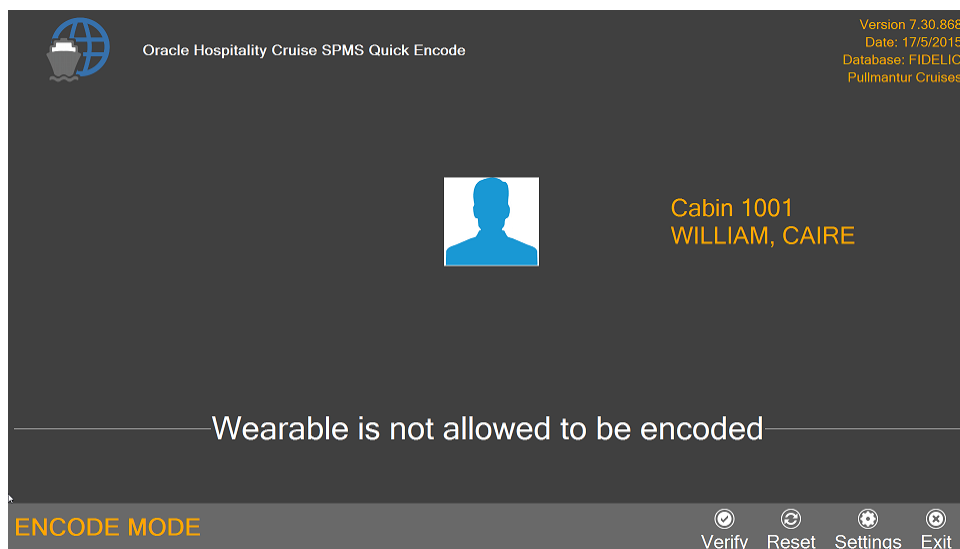

Figure 5-1 - Encode Mode for Non Ving RFID Card.
- If the card is *not* Ving RFID card type (Mifare 1K), system encode the Track 1 & Track 2 data only and skip the track 3 door encoding. Refer *Figure 5-1 - Encode Mode for Non Ving RFID Card*.